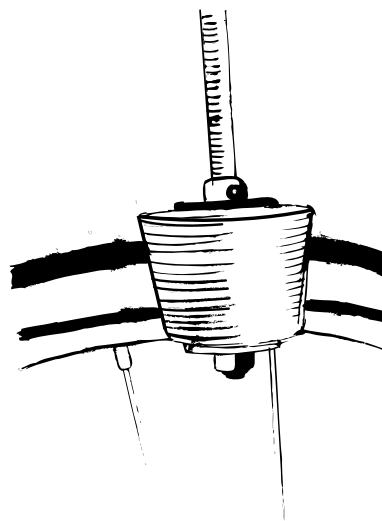

Figure 3.5 Rubber Stopper Affixed to Blender Shaft
58. Finally, add the $\frac{1}{4}$ " hex nut below the lower collar. Tighten securely. Try turning the rear wheel to make sure the whole shaft rotates when the wheel causes the rubber roller to rotate. If the roller simply revolves around the shaft, you need to compress it more firmly between the shaft collar, washers and hex nut. The end of the shaft should now look like the diagram in Figure 3.5.